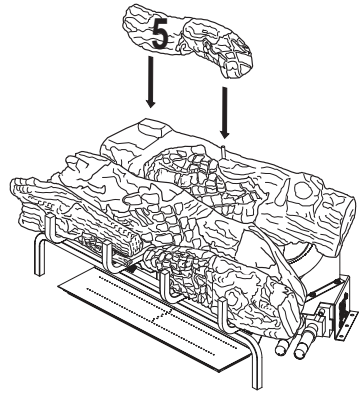

Figure 32- Installing Log # 5
5. Place the left top back log (#5) on top of the rear log. Match the rectangular projection on top of the left side of the rear log with the rectangular hole on the bottom of the left top back log. Match the metal pin on the top of the rear log with the round hole in the bottom of the left top back log. See Figure 32.